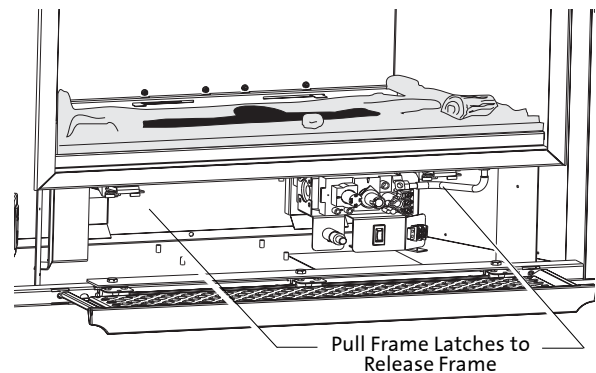

Figure 18. Glass Frame latch locations.
1. **Remove the Glass Frame, if you have not already done so.** Remove the Ashlip and locate the two frame latches under the firebox floor. See Fig. 18. Pull the latch handles forward to disengage them from the bottom of the glass frame. You can then pull the frame out and up off of the three retainer tabs at the top of the firebox opening. Set the Glass Frame out of the way.